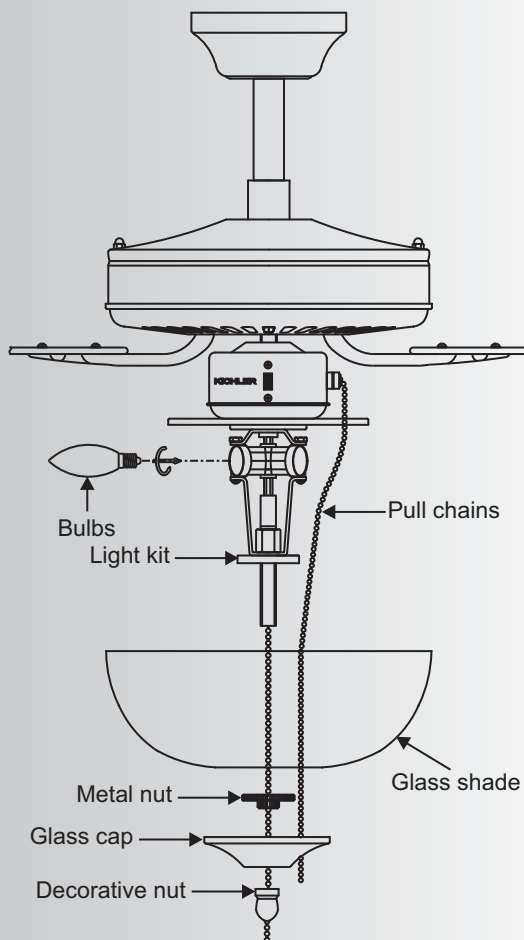

Fig. 17
1. Install 3 x 60w candelabra bulbs (included). (Fig. 17)
2. Remove the metal nut, glass cap and decorative nut from the light kit. Place glass shade over the light kit stem, secure with the metal nut (rubber side on the top), glass cap and decorative nut. Do not overtighten. (Fig. 17)
3. Insert the pull chains through the eyelet in the shade and cap. Secure the glass cap and decorative nut provided. Do not overtighten. (Fig. 17)